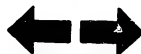

**Fig. 66 Attaching the injection pipes**
- 1. Install the test nozzle holders on the pump test stand and connect the injection pipes (1 680 750 014) to the delivery valve holders. (Figure 66)**